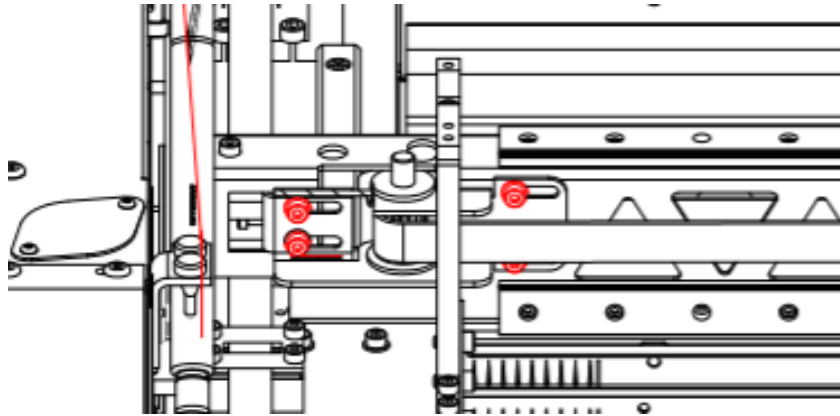

Fig. 100 Tensioner X securing screws
- c) Loosen the 4 screws securing the tensioner (Fig. 100, red).
- f) When you have finished tensioning the belt, tighten the previously loosened screws securing the X tensioner (Fig. 100).